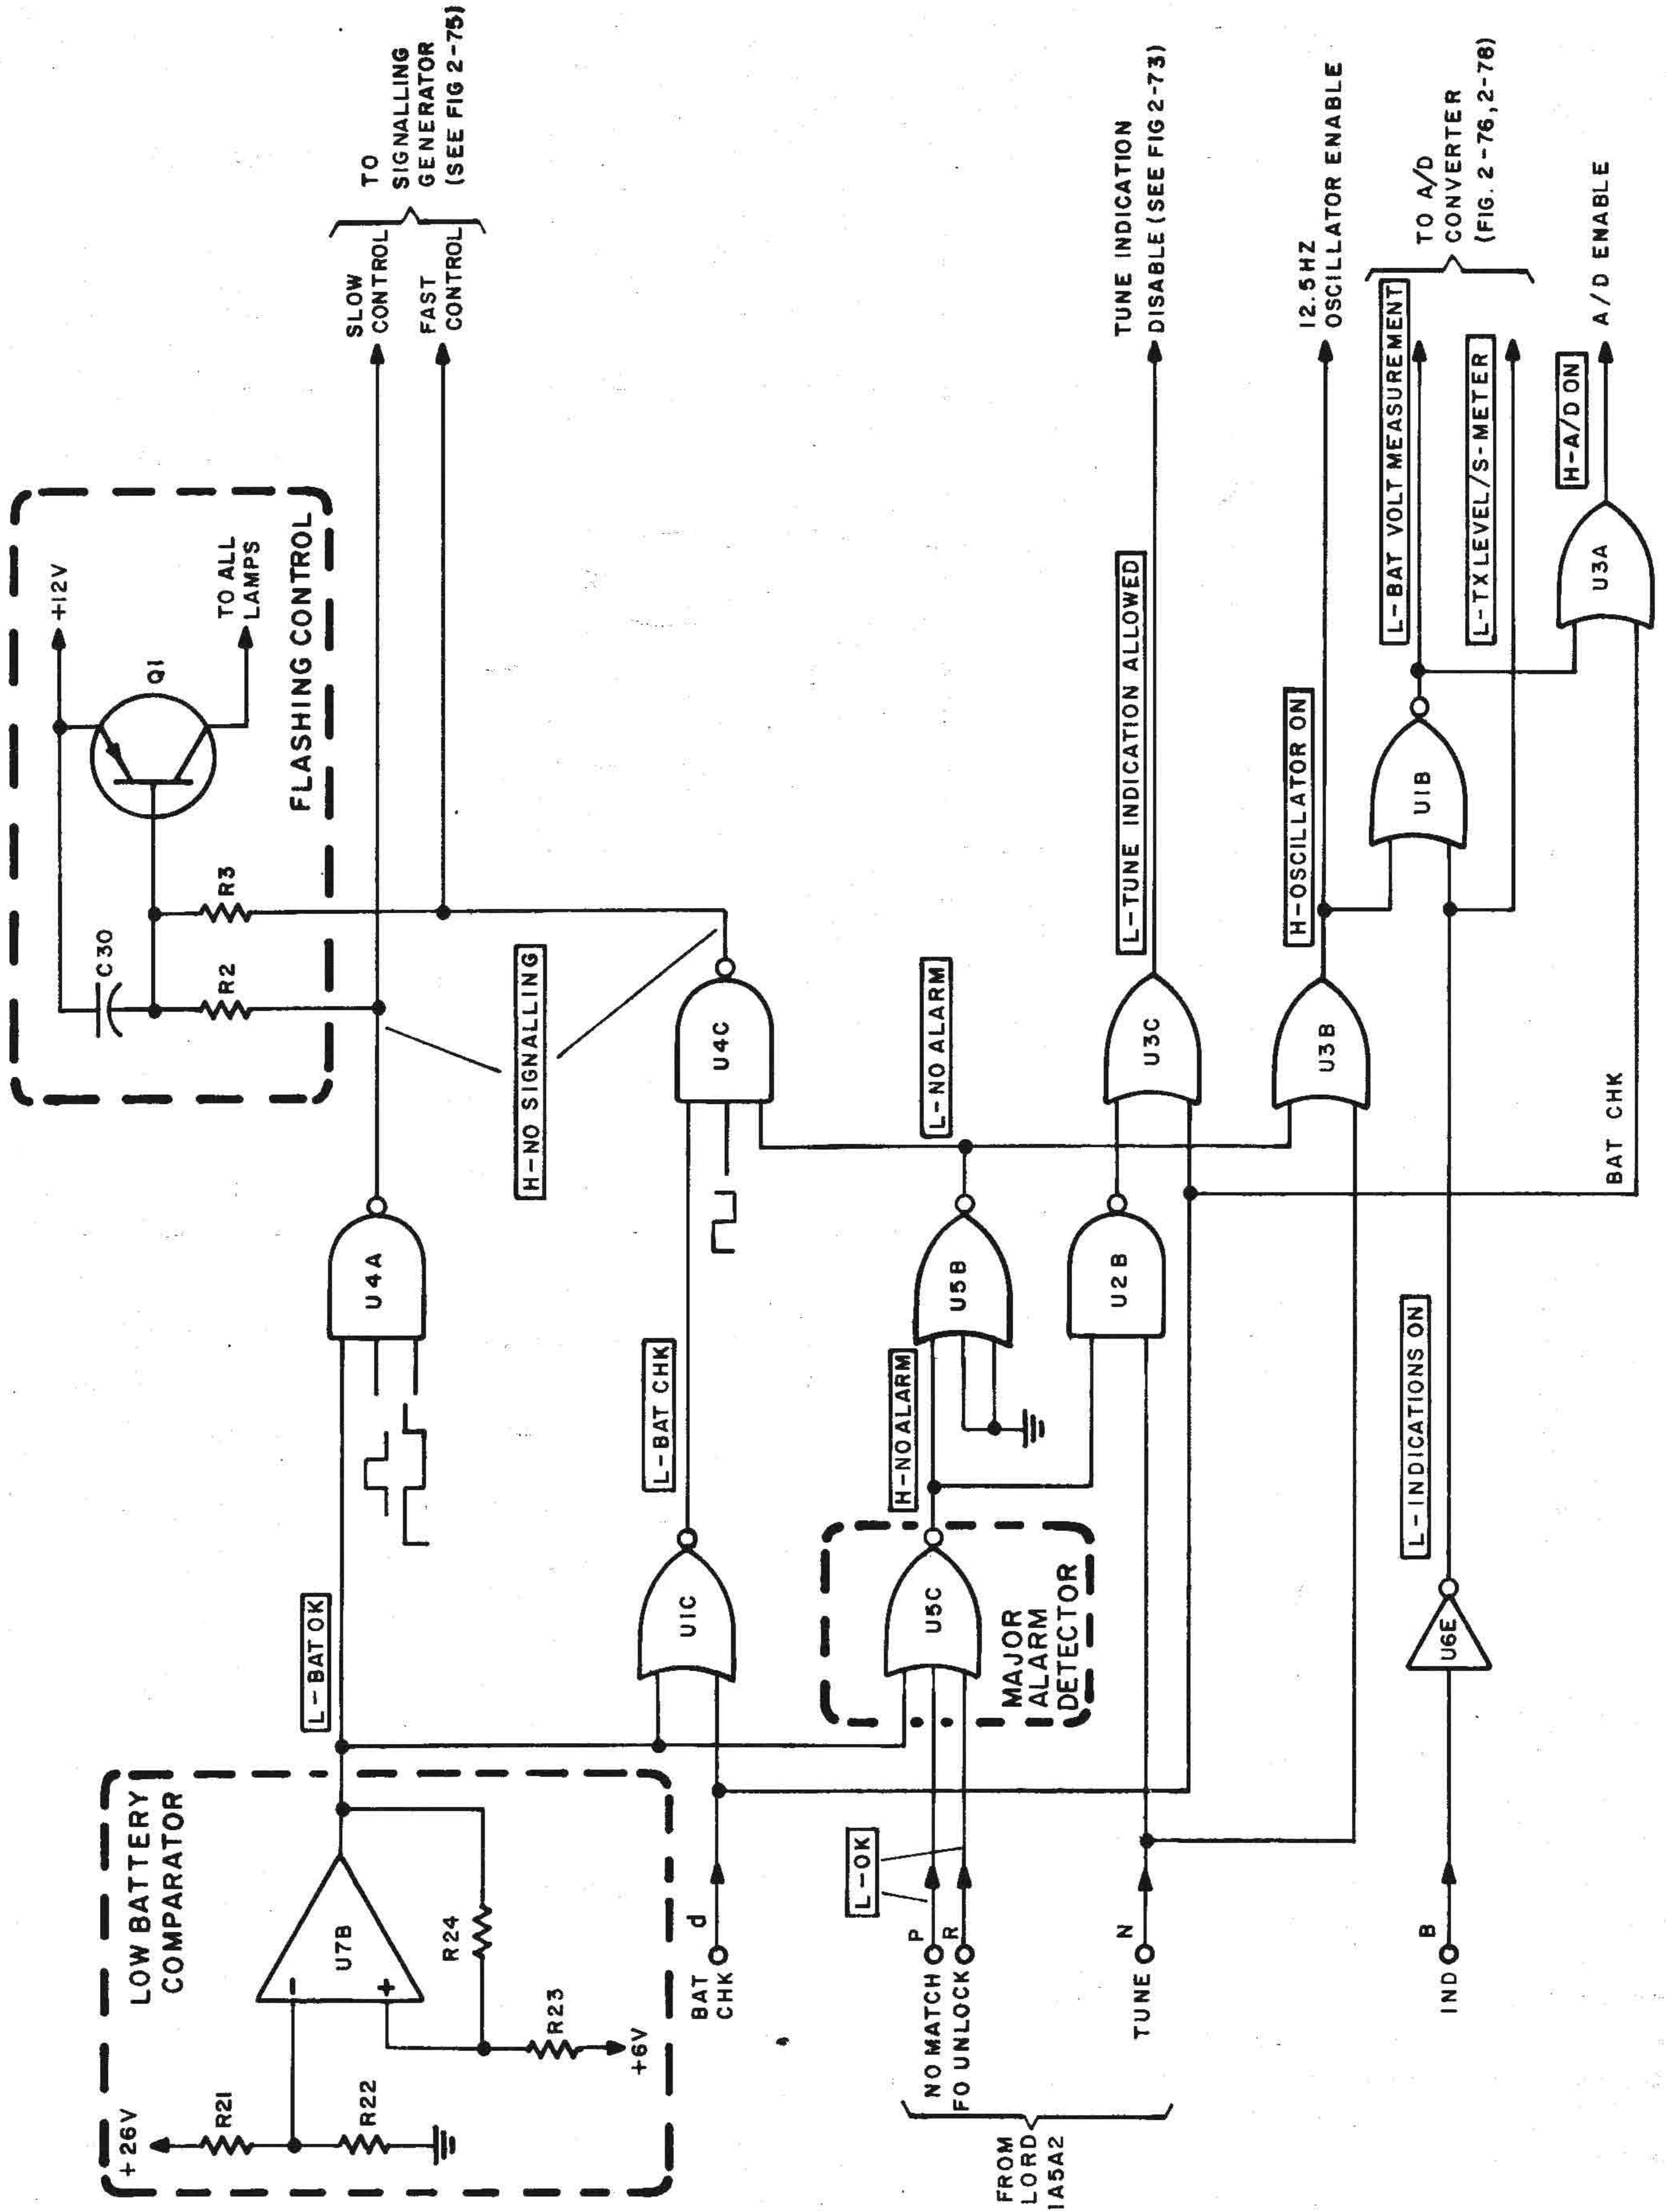

Fig. 2-72. Indication priority control, simplified circuit diagram
(c) 12.5-Hz oscillator control (fig. 2-72, 2-73). The 12.5-MHz oscillator provides the various waveforms necessary for differentiation between the alarms. The oscillator is turned on when a high level appears at the output of U3B. This happens when the TUNE line arriving from module LORD 1A5A2 rises to a high level (tuning in progress) and also when an alarm condition exists (U5B output at a high level).
(d) Tuning indication (fig. 2-72, 2-75). The tuning indication is controlled by U3C, in conjunction with U3B (see (c) above). When both the TUNE line and the output of U5C are at high levels (indicating that tuning is in progress and that there are no alarms), the output of U2B falls to a low level. Assuming that the LEDs are not being used for battery voltage display (BAT IND line at a low level), the output of U3C also assumes a low level and the tuning indication is enabled. An auditory indication is also provided, via U6F (see fig. 2-70 and 2-75.A).
(FIG 2-72)
U15 is used to select the resistors for the measurement of the primary AC voltage. Only four resistor values are actually used, and these are addressed by means of the bits appearing on the A and B inputs (pin 11 and 10, respectively) while input C (pin 9) is at a low level. Input C is controlled by the output of U1B (see fig. 2-72) and is low when the primary DC voltage is measured. U15 has a fourth control input, INH (pin 6), which disables the outputs when raised to a high level. The INH input is controlled by the most significant output (D) of U14; this output is low during the conversion cycle, and rises to a high level between successive conversion cycles.